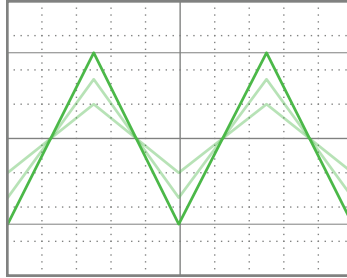

fig.2: Effect of increasing Feed control.
Feed: Input level attenuator. Clockwise (CW) to increase, counterclockwise (CCW) to decrease (fig. 2). This control is mainly for reducing strong signals to give more responsiveness to the other controls, so it is recommended to leave this fully CW for standard usage.